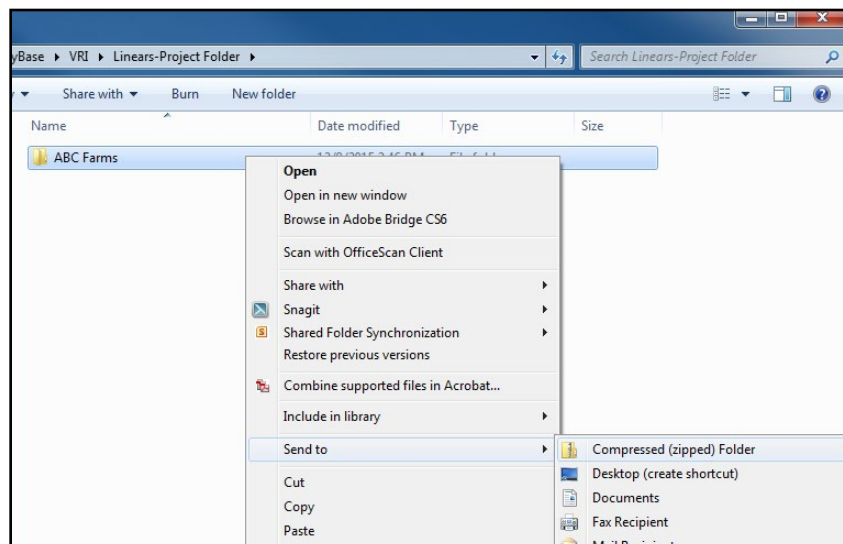

Figure 38-2
2. The second and preferred method for transfer is to exchange the entire ABC Farms folder. An easy way to do that is to Zip the folder with a zip program (most computers are equipped with the need program). Right click on the file and a drop-down menu will appear select **Send to**, then choose **Compressed (zipped) Folder**. Figure 38-2